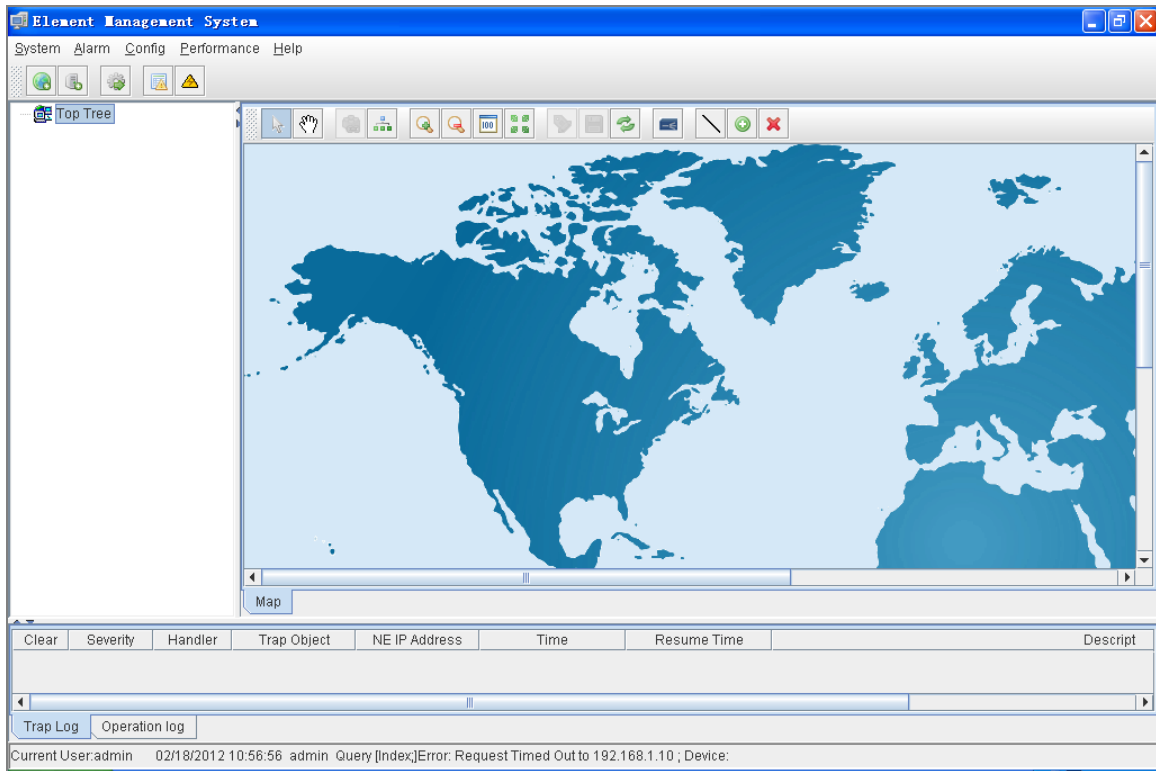

Figure 3-25 Main Screen of EPL-2000 GEPON OLT
- After entering the user name and password, the PL-EMS main screen will appear as in Figure 3-25.